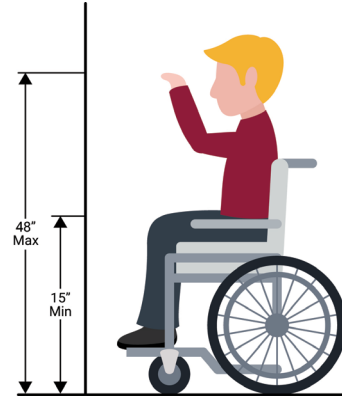

Figure 1.1
NOTE: See Figure 1.1 & the link below for more details.
1. Install this pedestal with charging station so that all user controls are between 15" and 48" above ground level (as per ADA regulations). See Figure 1-1.